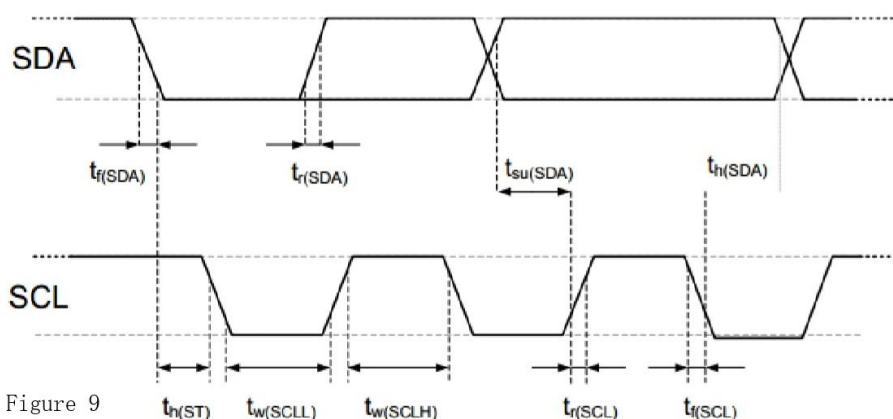

Figure 9
SDA pins are used for data input and output of the sensor. SDA is effective at the rising edge of the serial clock (SCL) when sending a command to the sensor, and must remain stable when the SCL is high. The SDA value can be changed after the SCL drop edge. To ensure communication security, the effective time of SDA should be extended to TSU and THO-reference figure 9 before and after the SCL rising edge and after the falling edge, respectively. When the data is read from the sensor, the SDA is effective (TV) after the SCL is low and is maintained to the next SCL drop edge.
Electrical characteristics, such as power consumption, input and output of high and low level voltage, etc., depend on the power supply voltage. In order for the sensor to communicate smoothly, it is important to ensure that the signal design is strictly limited to the range given in table 7, 8 and figure 9.